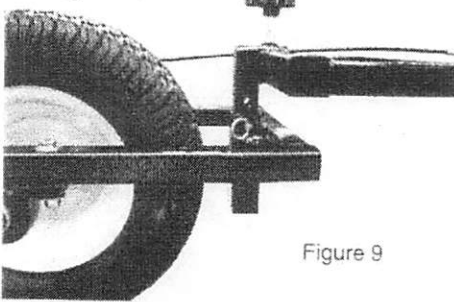
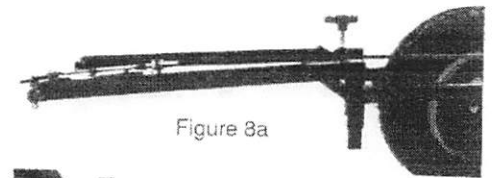

Figure 9
Figure 8a
14. The attached fork may be put onto the frame either from the top, for attachment to the upper lugs on a variety of nose gear configurations (i.e. Cessnas or Bonanzas), or inverted for use on the lower attach points such as axles, (i.e. many Pipers with axle attachments), (See Figures 8a, 8b, and 8c).
a. The unit is easiest to operate when the fork of the Tow Buddy is at a height approximately 1" above the attaching points (i.e. axle or nose gear lugs) when the Tow Buddy is sitting on its legs. To accomplish this there are two adjustments that can be made. First is the height of the fork itself. Remember that the fork can either be positioned on top of the frame or inverted to come into the frame from the bottom (See Figures 8a and 8b). Adjust the fork height to get the Tow Buddy attach points near your aircraft attach points (See Figure 9).